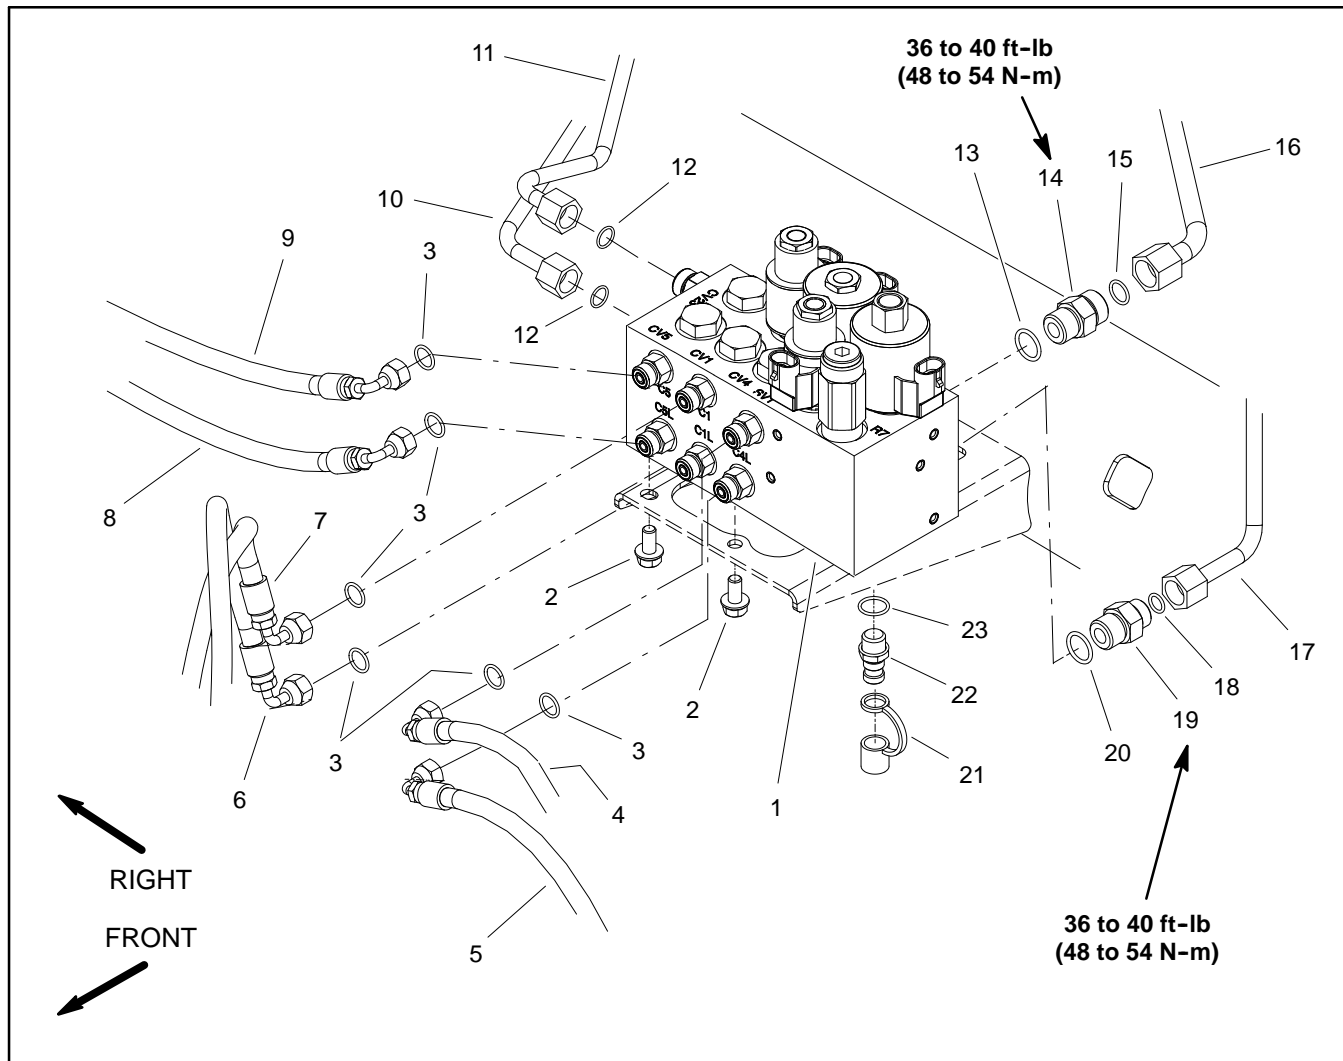

Figure 75
Removal (Fig. 75)
Installation (Fig. 75)
- C. Install fittings into manifold. Torque fittings to torque values identified in Figures 75 and 76.
2. Position lift control manifold to frame. Install two (2) flange head screws but do not fully tighten.
5. Secure hydraulic manifold to frame by tightening two (2) flange head screws.